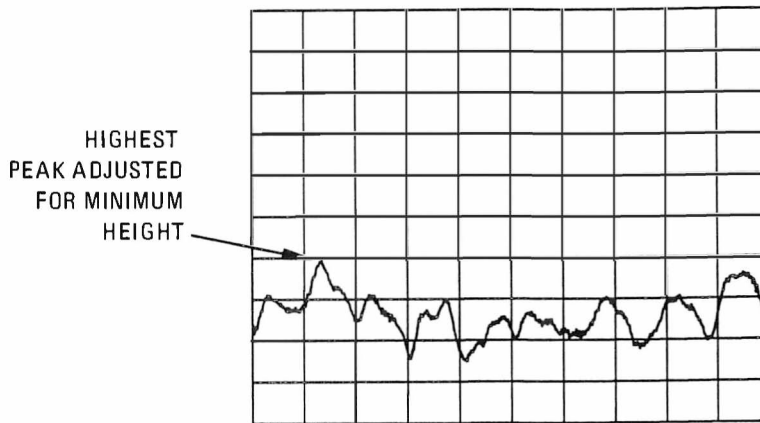

Figure 5-52. Oscilloscope Display at A26TP3 MOD LVL with no Squegging
The oscilloscope display should look similar to Figure 5-52.
11. The oscilloscope display should be similar to Figure 5-52. Adjust A24R12 MIN control so that the highest peak on the oscilloscope display is minimum.